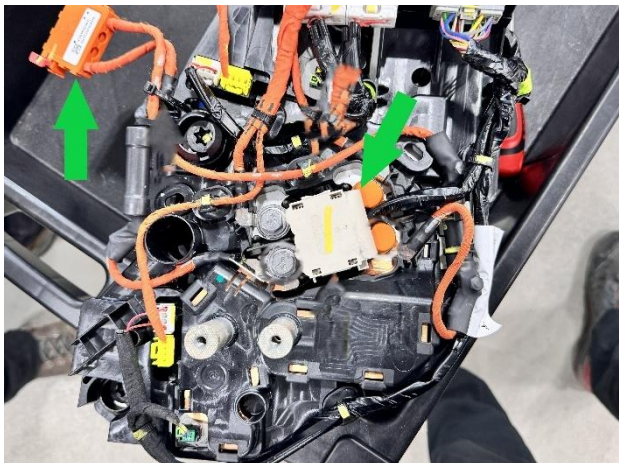

Figure 3
3. Release the red connector lock and disconnect the electrical connectors (x2) (Figures 3 and 4), and then remove the harness from the vehicle.